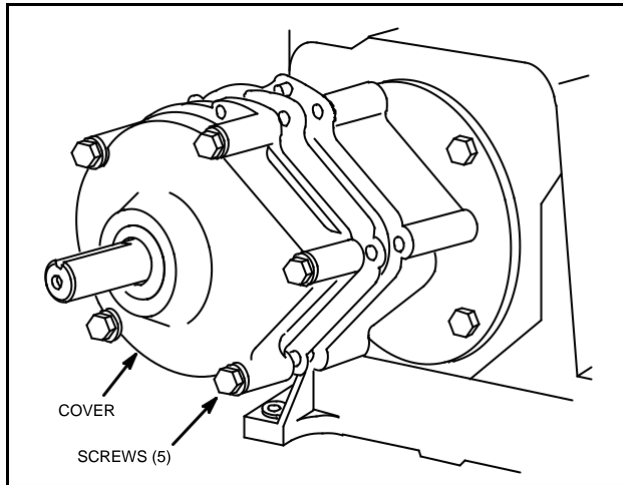

Fig. 144 - DRAINING GEAR REDUCTION AND REMOVING COVER
2. After gear case is drained, remove cap screws and cover, Fig. 144.